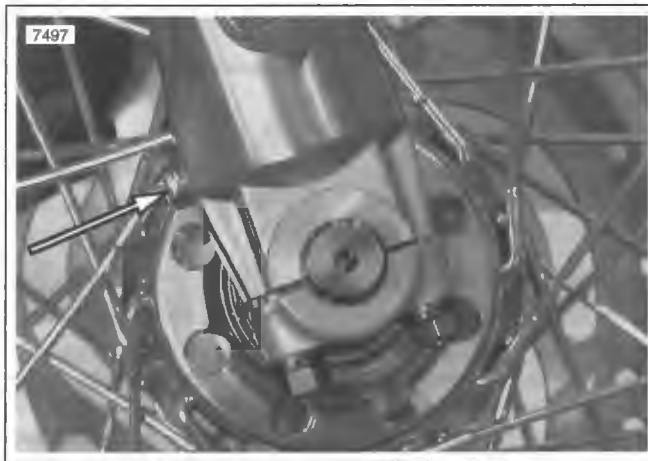

Figure 1-47. Fork Drain Screw: All Models Except FXSTD (Right Side Shown)
- b. All models except FXSTD, see Figure 1-47. Remove and discard the drain screws and washers from each fork and drain the fork oil.